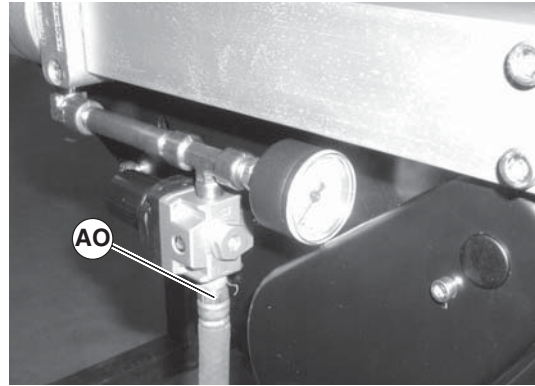

Figure 45
1. Remove air supply and remove hose (Figure 45, item AO) from center drive.